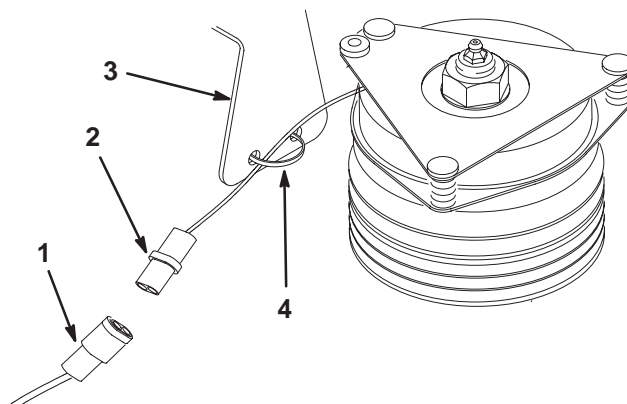

Figure 1
3. Unplug the main wire harness connector from the clutch wire harness (Fig. 1).
4. Cut and remove the cable tie securing the clutch wire to the existing wire harness shield (Fig. 1)